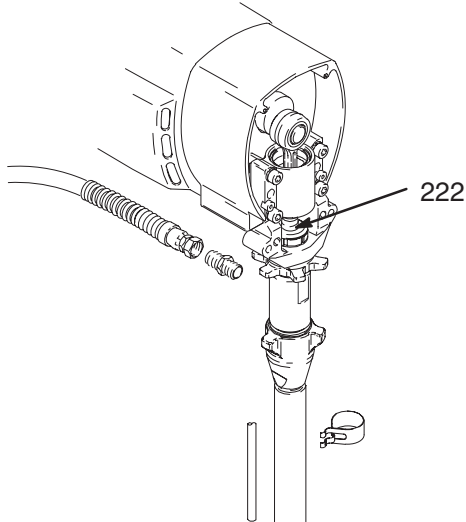

Fig. 20 7672A
1. Flush pump. Relieve pressure. Fig. 20. Cycle pump with piston rod (222) in its lowest position.
2. Fig. 20. Unscrew suction tube and hose from pump.